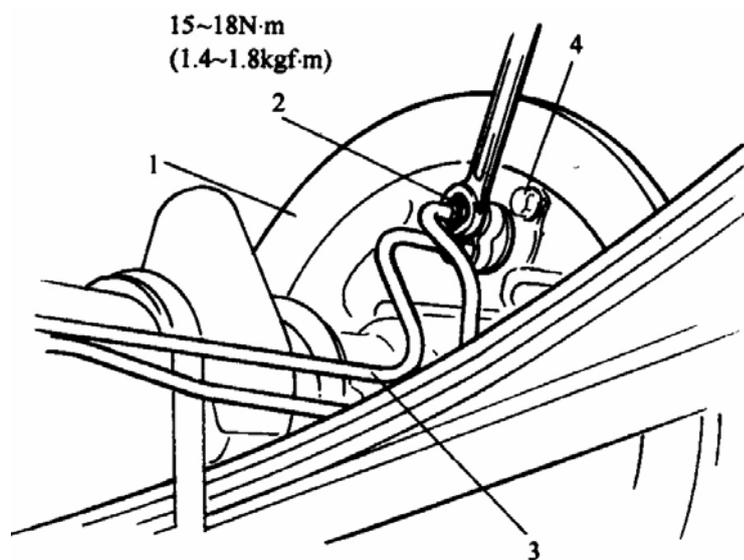

FIG.16-47: 1-Brake back plate; 2-Brake pipe flare nut; 3-Brake pipe; 4-Wheel cylinder bolts
- (1) Apply sealant between brake back plate and wheel cylinder.
- (2) Tighten wheel cylinder to brake back plate to specified torque.
- (3) Tighten flare nut of brake pipe to specified torque.
- (4) Install breather plug cap taken off pipe back to breather plug. (FIG.16-47)